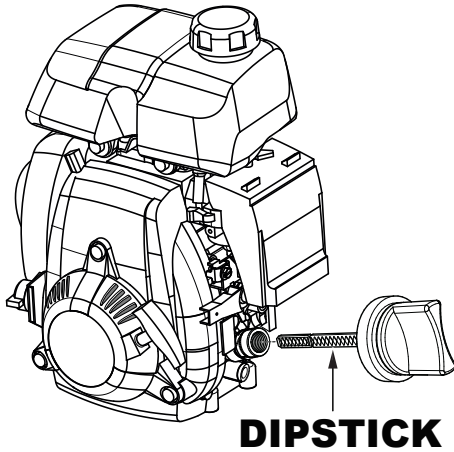

Figure 5. Engine Oil Dipstick Removal
2. Remove the filler dipstick from the engine oil filler hole (Figure 5) and wipe it clean.